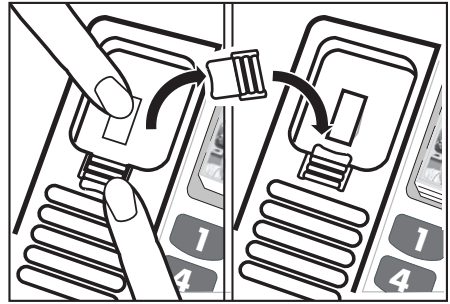

Fig. 4 – Handset hook change
1. Pull the handset hook out and reverse its position so that the hook points up and will hold the handset when you hang up as shown in figure 4.